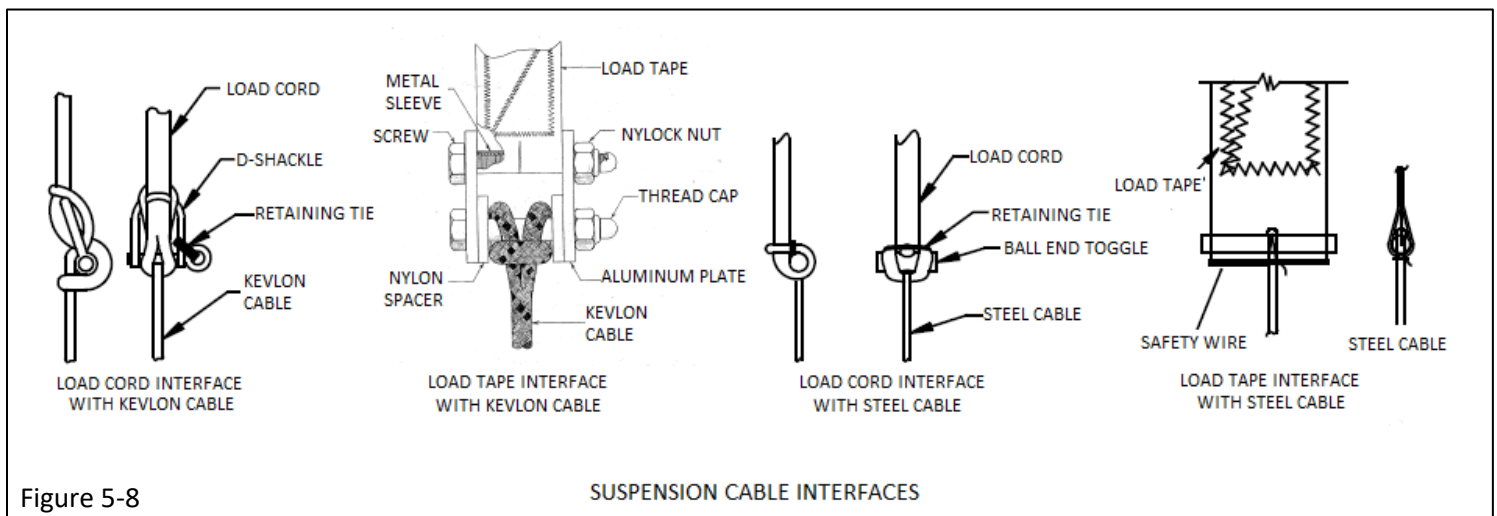
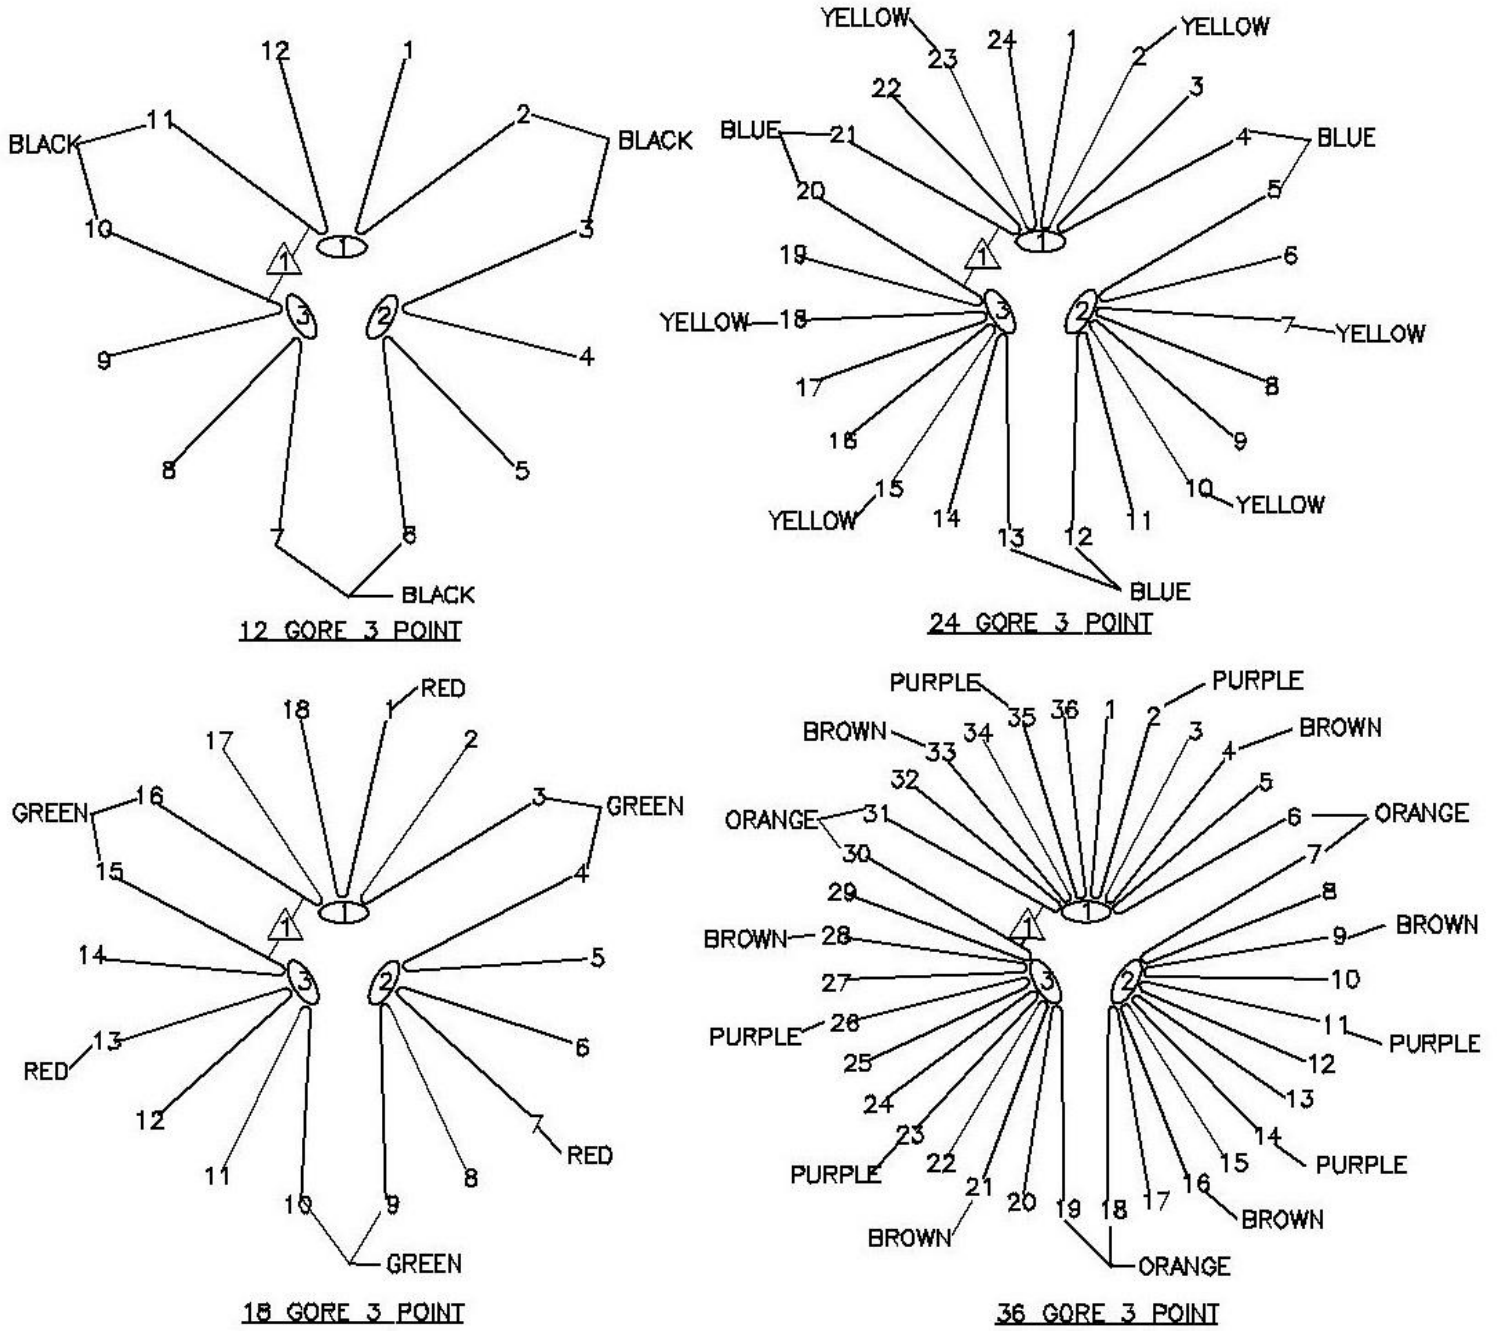

Figure 5-8
Figure 5-9 – THREE POINT SYSTEMS
1. Disengage cable eye spliced end at the load cord interface (see Figure 5-8) by cutting the retaining tie and disassembling. Disconnect the envelope temperature sensor lead at the split bolt connector if applicable.
6. Reconnect the suspension cable to the load cord as shown in Figure 5-8. One leg of each cable pair is color coded. Be sure to replace the cables per the color coding shown in Figures 5-9 or 5-10. Reconnect temperature sensor leads if applicable, duplicating the required slack in the lead.
1. If individual cables are to be replaced, refer to Figures 5-9 or 5-10 to verify which pairs will be involved.
2. For each cable pair to be replaced, disengage cable at the load cord interface (see Figure 5-8) by cutting the retaining tie and disassembling. Disconnect envelope temperature sensor lead at the split bolt connector if applicable
5. Reconnect the suspension cable to the load cord as shown in Figure 5-8. One leg of each cable pair is color coded. Be sure to replace the cables per the color coding shown in Figures 5-9 or 5-10. Reconnect temperature sensor leads if applicable, duplicating the required slack in the lead.
1. A toggle assembly is one third (or one fourth) of a suspension cable set as shown in Figures 5-9 & 5-10.
2. Disengage cable eye spliced end at the load cord interface (see Figure 5-8) by cutting the retaining tie and disassembling. Disconnect the envelope temperature sensor lead at the split bolt connector if applicable
3. Reconnect the suspension cable to the load cord as shown in Figure 5-8. One leg of each cable pair is color coded. Be sure to replace the cables per the color coding shown in Figures 5-9 or 5-10. Reconnect temperature sensor leads if applicable, duplicating the required slack in the lead.